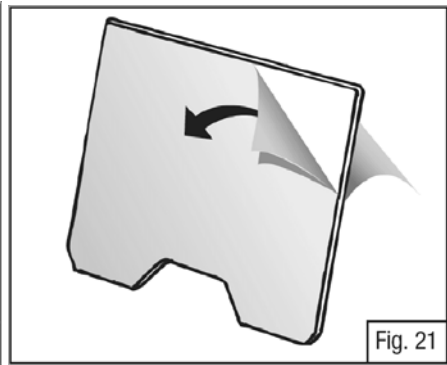

Fig. 21
- Remove the protective film from both sides of the new FlexView protection plate (Fig 21) prior to its installation.